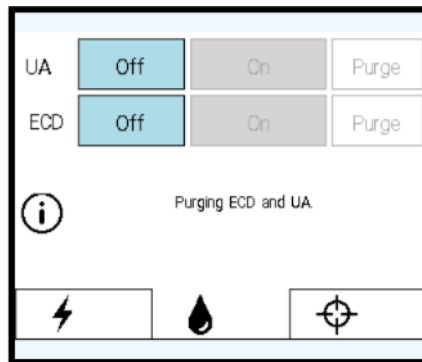
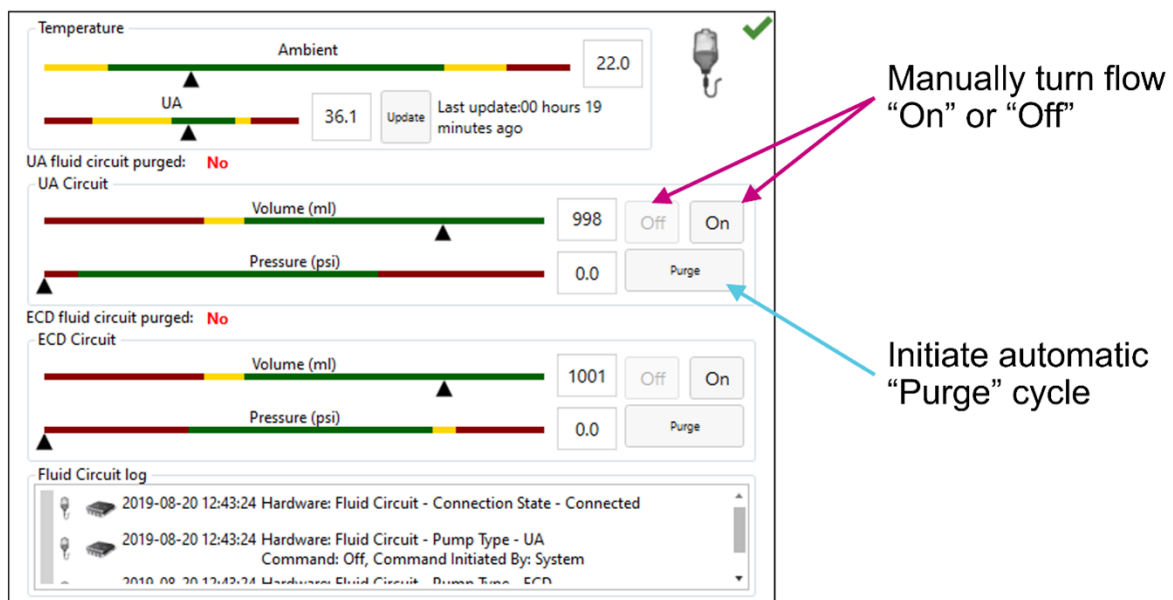

Figure 6: PSIB Display - Fluid Circuit tab
Figure 7: Fluid Circuit information box in TDC Setup workspace
4. On the PSIB display, choose the **Fluid Circuit** tab (*Figure 6*) and **Purge** the UA and ECD fluid circuits. You can also do this from the TDC by pressing **PURGE** beside the fluid circuit (FC) quadrant (*Figure 7*).
- a. If the purging cycle ends before completing the steps in this process, return to the PSIB display (or TDC window) and manually turn the flow on by clicking **On**. The fluid pumps will remain on until you click **Off** (Figure 7).